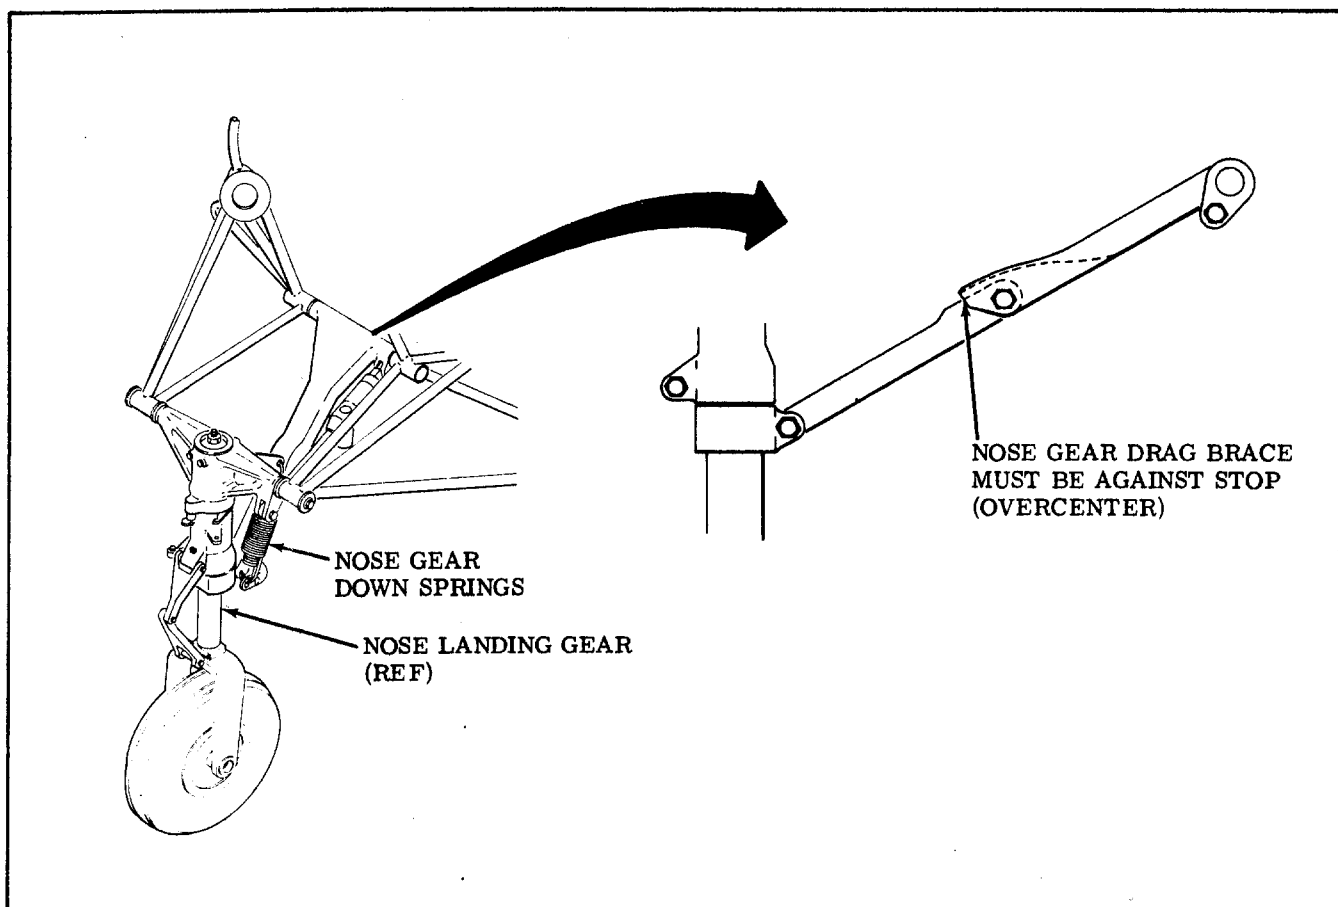

Figure 1.
6. With the nose landing gear extended, assure that nose gear drag brace is overcenter (see Figure 1.) as follows: